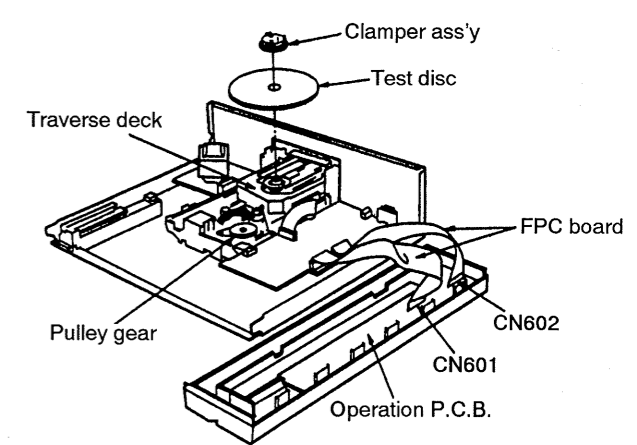

Fig. 2
3. Connect the 2 FPC board(CN601, CN602) as shown in Fig. 2.